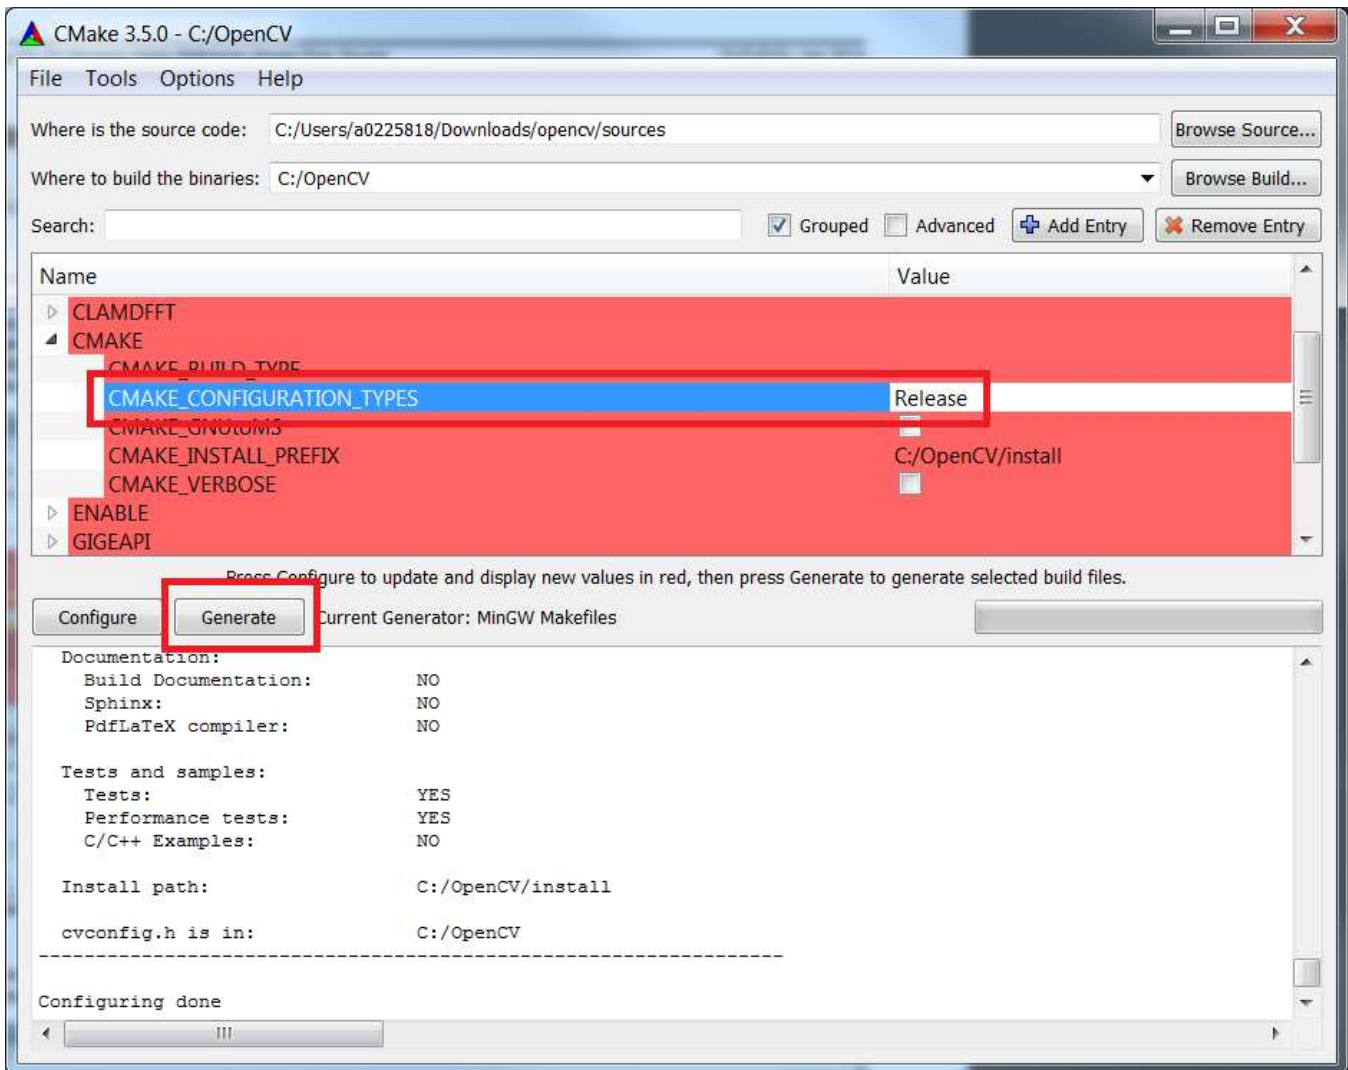

Figure 34. Change Configuration Type to Release
- Find CMAKE_CONFIGURATION_TYPES as shown in Figure 34. Type "Release" into that space. Click on the "Generate" button. Allow CMake to run and finish generating the files. There should be no errors.